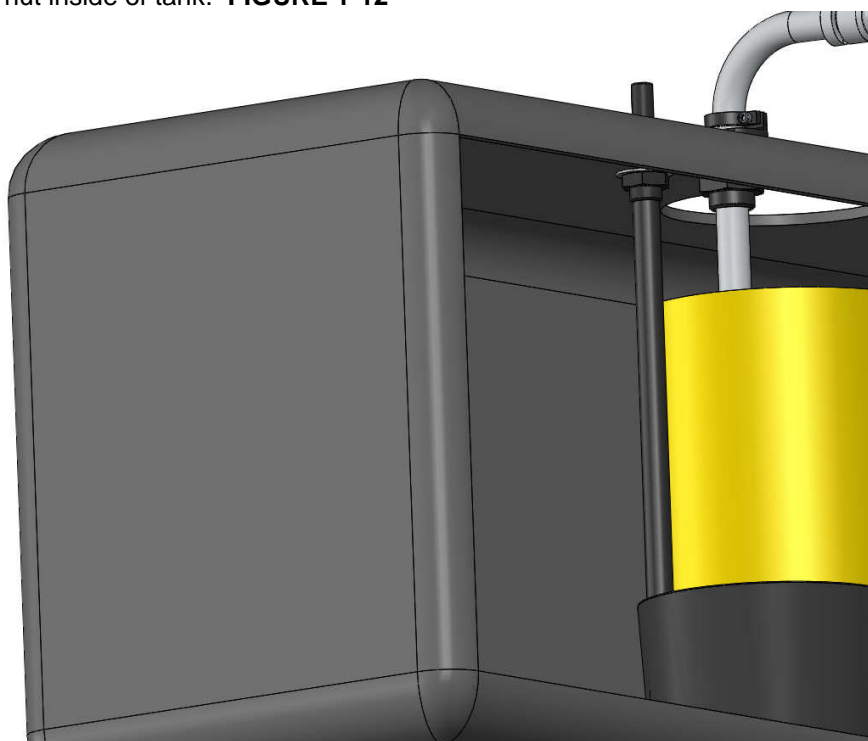

FIGURE 1-12
15. As you are inserting the return tube into the tank, guide the tube in between the black rubber basket and yellow foam. Once installed, tighten lock nut inside of tank. **FIGURE 1-12**